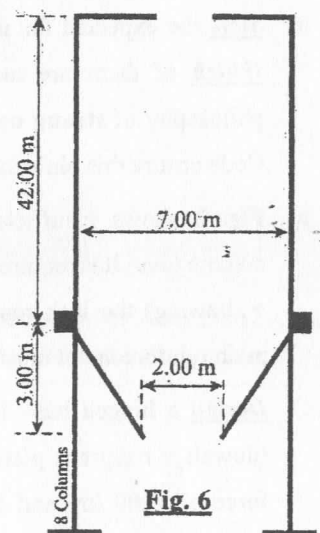

Fig. 6
e) As shown in Fig. 6, a silo-cell with circular cross section having a 7.00 m diameter and 42 m height and rested on 8 columns will be utilized for storing wheat (قمح), consider that; $\rho_f' = 0.75 \rho$ - $\rho_e' = 0.60 \rho$ - $\rho = 30^\circ$ - $\gamma = 0.80 \text{ t/m}^3$ - $\mu = \tan \rho'$ - $\lambda_e = 1.00$ - $\lambda_f = 0.50$.